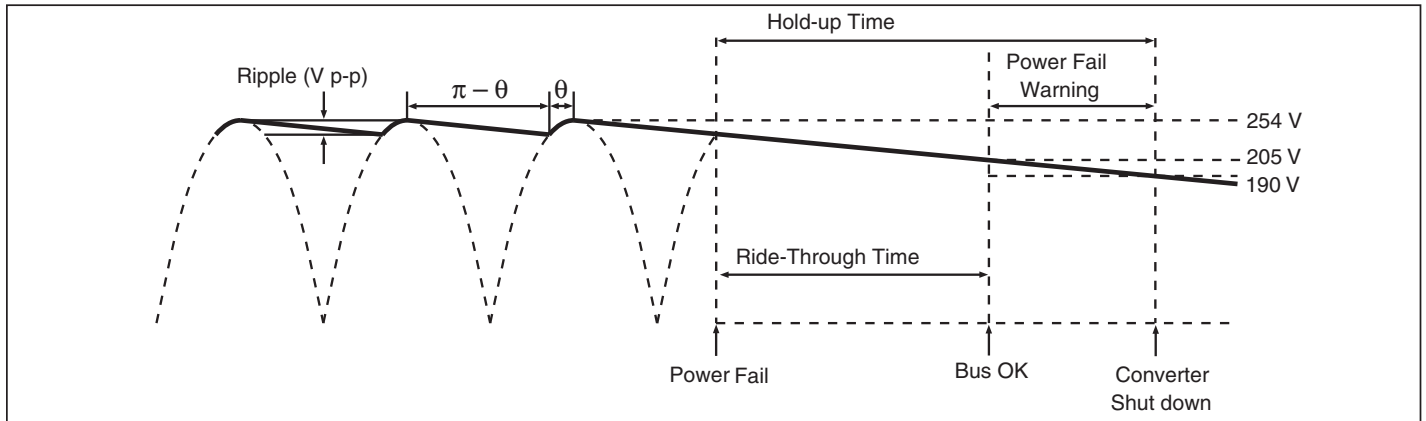
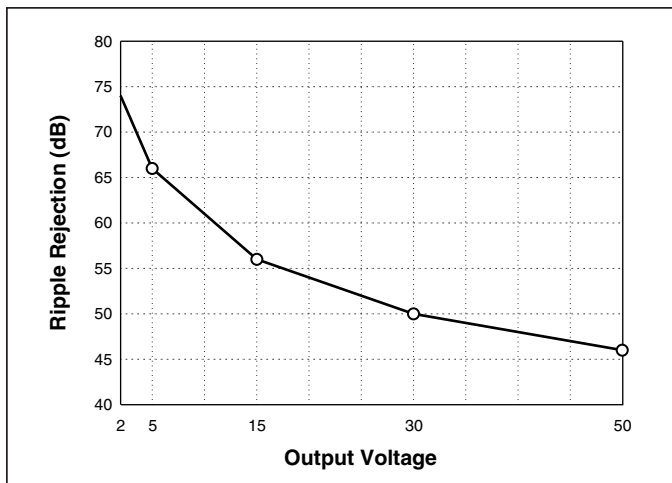

Figure 14 — Hold-up time
Figure 18 — Converter ripple rejection vs. output voltage (typical)
**Hold-up Capacitors.** Hold-up capacitor values should be determined according to output bus voltage ripple, power fail hold-up time, and ride-through time. (See Fig. 14). Many applications require the power supply to maintain output regulation during a momentary power failure of specified duration, i.e., the converters must hold-up or ride-through such an event while maintaining undisturbed output voltage regulation. Similarly, many of these same systems require notification of an impending power failure in order to allow time to perform an orderly shutdown.
For example, a converter whose output is 15 V and nominal input is 300 V will provide 56 dB ripple rejection, i.e., 10 V p-p of input ripple will produce 15 mV p-p of output ripple. (See Fig. 18) Equation 3 is again used to determine the required capacitance. In this case,  $V_1$  and  $V_2$  are the instantaneous values of bus voltage at the peaks and valleys (see Fig. 14) of the ripple, respectively. The capacitors must hold up the bus voltage for the time interval ( $\Delta t$ ) between peaks of the rectified line as given by:
**DC-DC Converter.** Fig. 18 is used to determine the ripple rejection of the DC-DC converter and indicates a ripple rejection of approximately 60 dB for a 12 Volt output. If the ripple on the bus voltage is 12 Vac and the ripple rejection of the converter is 60 dB, the output ripple of the converter due to ripple on its input (primarily 120 Hz) will be 12 mV p-p. Note that Maxi, Mini, Micro converters have greater ripple rejection than either VI-200s or VI-J00s.